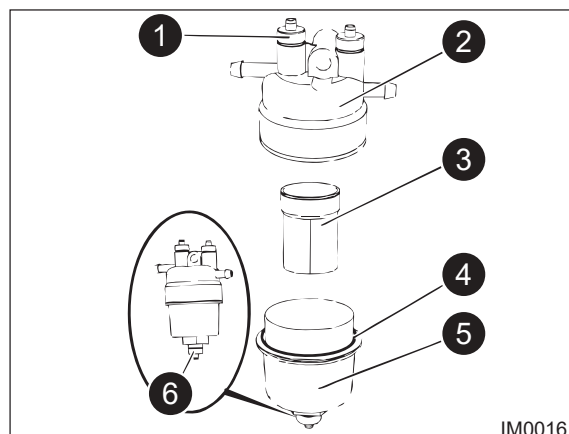

Fig: 11.19 - Water Seperator
4. Clean the outside body of the filter assembly (Fig: 11.19).
5. Open Drain Valve (Item 6) and open Vent Screw (Item 1) and drain the filter. Close drain screw and close vent screw. Use only hand pressure in order to tighten the drain screw and the vent screw. Ref: Fig: 11.19.
6. Remove Filter Bowl (Item 5) from Filter (Item 2) and remove Filter Element (Item 3) from filter. Discard filter element. Ref: Fig: 11.19.
7. Remove O ring seal (Item 4) and discard. Ref: Fig: 11.19.
9. Install new O ring seal (Item 4) and install new Filter Element (Item 3). Ref: Fig: 11.19.
10. Install Filter Bowl (Item 5) to Filter (Item 2) and tighten the filter bowl to a torque of 10 Nm (88 lb in). Ref: Fig: 11.19.